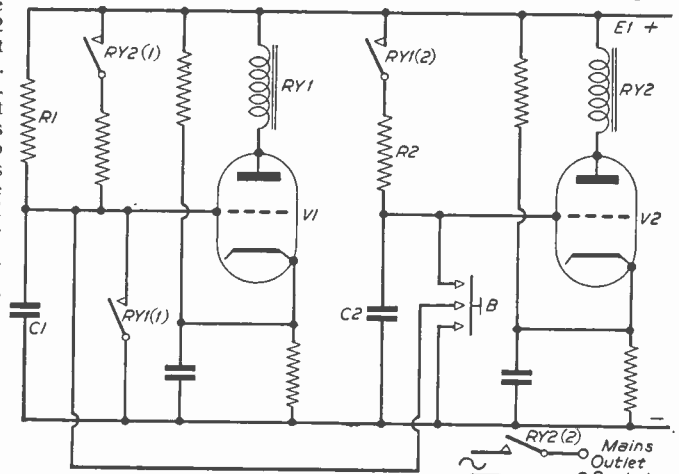

Fig. 7.—A timer circuit incorporating two time constant circuits.
THE difficulties mentioned last month in obtaining a fair degree of setting accuracy over a range of from a few seconds to about a quarter of an hour can be largely overcome by the use of two separate RC combinations (see Fig. 7). The first C1R1 provides a maximum period of about 30 seconds and is continuously variable, using a variable resistor of 1 or 2M and an electrolytic capacitor. As an example, we could use a 1M variable resistor and a 16 μ F capacitor, giving a maximum interval of 26 seconds when Eg is 80 per cent of E1. Present-day capacitors of good quality with a capacitance of 16 μ F have low enough leakages to avoid trouble when used with a 1M variable resistor. This capacitor charges up in the normal manner from the supply potential E1 until V1 conducts sufficiently to energise relay RY1. One set of contacts on this relay RY1(1) short circuits C1 and quickly discharges it, which cuts V1 off again and de-energises RY1. During the short period when RY1 is energised a second set of contacts, RY1(2), connects the second time constant combination C2R2 to the supply voltage E1. However, when RY1 is de-energised C2R2 is disconnected from the supply and it can receive no further charge until V1 conducts again, energising RY1 again. This sequence of operation continues, with C2 only acquiring its charge for short periods during the discharge of C1, until the potential of C2 is sufficient to cause V2 to conduct and energise the second relay RY2. One set of contacts on this relay, RY2(2), operates the external circuit while another set, RY2(1) connects the grid of V through a resistor to the supply, maintaining both valves conductive. This terminates the timing period. The timing interval can be initiated again by momentarily pressing the button B, which short-circuits C2 and C1, cutting off V2 and V1 and opening contacts RY2(1) and RY1(2), thus permitting C1 to commence charging up again through R1 and starting the sequence of events over again.
parts by the interval of the first time constant. By this means we can obtain a long timing interval without necessitating very high values of either C or R in either section. To reduce the number of valves and simplify the circuit, a neon tube can be used instead of a valve for V1. It is connected across C1 along with a low resistance relay in series with either its anode or cathode. When the voltage on C1 reaches the striking voltage of the neon it conducts and discharges C1, the flow of current through the neon energising the relay. The rest of the circuit, for C2R2 and V2, could be as in Fig. 7 with the number of "steps" required to cause V2 to conduct controlled by switching in different values of R2. However, it is important with this type of circuit that C2 should retain its charge without appreciable loss during the period when C1 is charging, otherwise the capacitor C2 may, on the average, lose more charge than it gains
and the second stage will never operate. The circuit of Fig. 7 also suffers from the following disadvantage: the external circuit is switched off at the end of the timing period by the anode current of V2 energising the relay RY2, this state being maintained so long as V2 passes sufficient current. The external circuit is, conversely, switched on when RY2 is de-energised, which will normally only occur when the button B is pressed, to initiate the timing period. However, if the anode current of V2 should cease for any other reason, such as the mains supply being momentarily interrupted, the timing cycle will be initiated and the external circuit switched on. This is obviously undesirable, as it could mean spoiling a, perhaps,
provide for tuning of the three coils, two of which form a band-pass unit in the aerial grid circuit of the 6K7 which is a special feature of this design. The complete schematic diagram is given in figure 7 and is perfectly normal apart from the band-pass tuning. The two diodes of the 6Q7 are strapped together as AVC is not used. We are only aiming at receiving stations which come in at a steady useful strength and in such conditions AVC is not necessary. In my home locality Radio Luxembourg has periods of severe fading at times but when this occurs it is of the distorted type and even on a large superhet AVC provides no cure. In this feeder, therefore, it was felt that the small control which AVC could exercise on the 6K7 would not be of any value and so it was omitted.